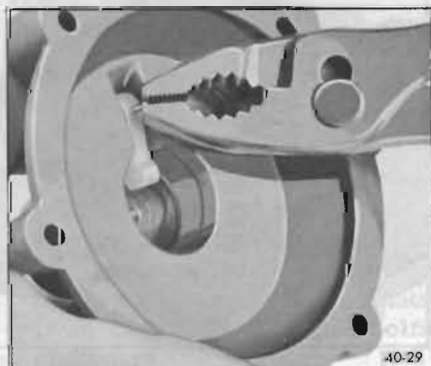

Figure 40-31—Removing Rocker Arm Pin
- If necessary, remove rocker and swivel arms. Grip pin with pliers and remove pin. See Figure 40-31.